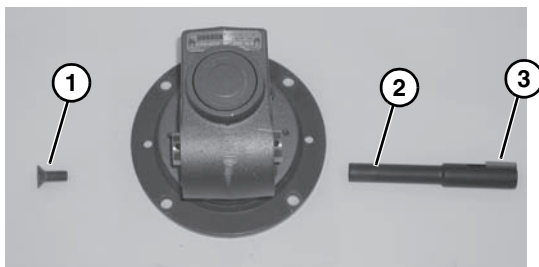

Figure 33
- Remove shaft locking screw (**Figure 33, item 1**), remove gear reducer output shaft (**Figure 33, item 2**) and key (**Figure 33, item 3**).
Output shaft (Figure 33, item 2) is held in Gear Reducer with a tapered press fit. Removal may require use of an arbor press.
- Insert the new shaft with key (**Figure 33, item 3**) into new gear reducer.